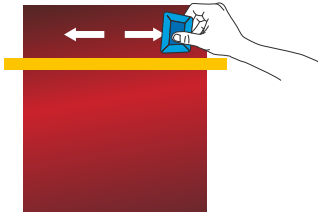

Figure 07
- › Start applying the film with a squeegee (previously covered with felt), by forming a 45° angle with the substrate, and by working from the centre towards the edges. (FIG. 07)